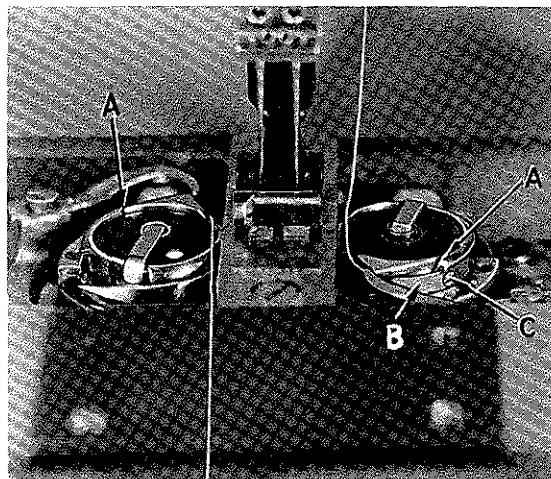

Fig. 5
Place the bobbins in the hooks so that they unwind in the opposite direction to that of the hook rotation (Fig. 5). Pull the threads into the slots of the bobbin cases (A). This operation will bring the bobbin threads between the tension springs and the bobbin cases. Adjust bobbin thread tension, by regulating the pressure on spring (B) with screw (C) on both bobbin cases, so that there is a slight drag on the thread. Make sure that the bobbin thread is between the tension spring and bobbin case.